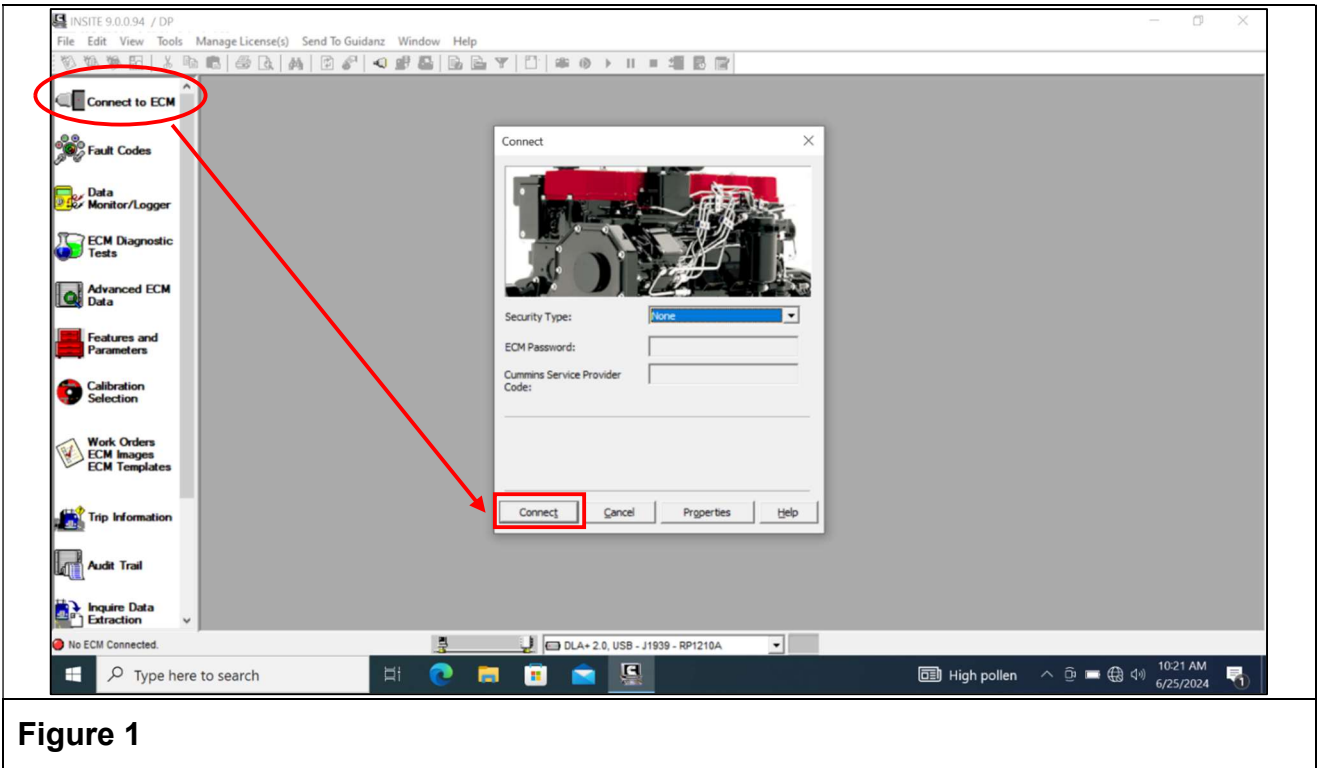

Figure 1
3. Using the Cummins INSITE tool (version 9.0.0.94 or later), from the Main Screen select **Connect to ECM** to establish communication with ECU, and then select **Connect**. (See Figure 1.)